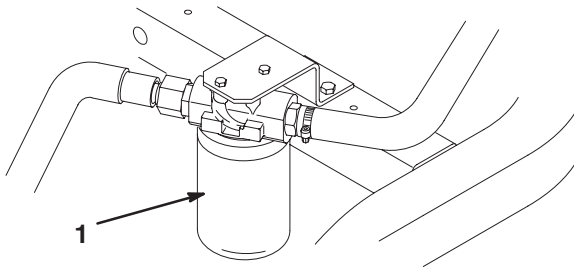

Figure 48
1. Clean the area around the filter mounting area (Fig. 48). Place a drain pan under the filter and remove the filter.